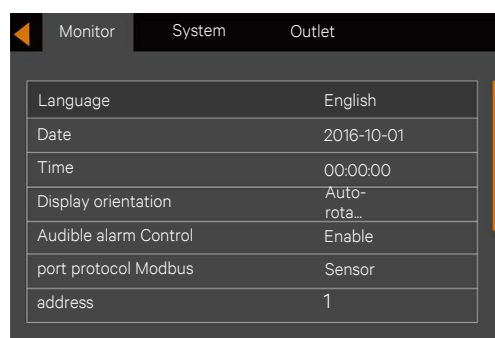

Figure 5-11 Monitor interface
2. Press the key to move the cursor to 'Monitor', see Figure 5-11.